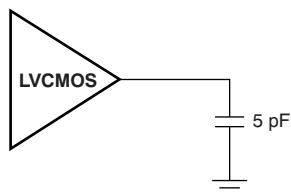
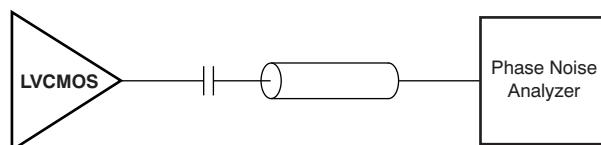
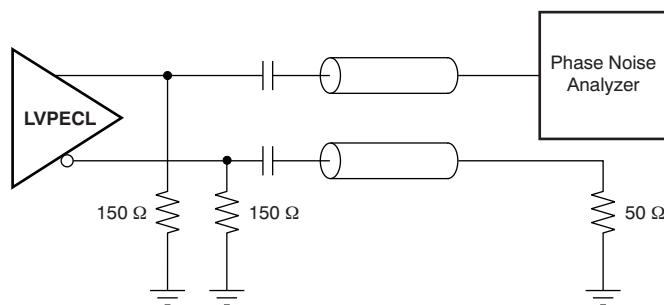
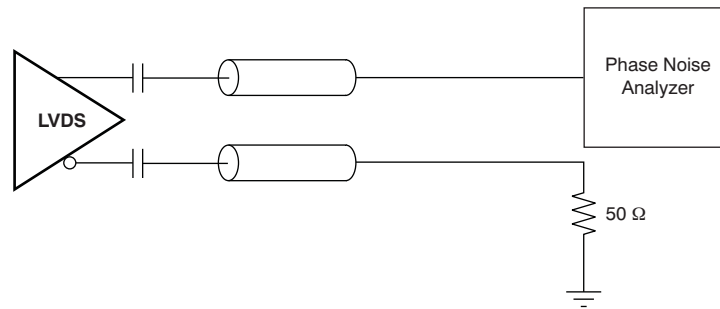

Figure 7. LVC MOS Output Loading During Device Test
Figure 8. LVC MOS AC Configuration During Device Test
Figure 10. LVPECL AC Configuration During Device Test
Figure 12. LVDS AC Configuration During Device Test
- (1) Figure 7 and Figure 8 show DC and AC test setups, respectively. Jitter measurements made using 25-MHz quartz crystal inches.
250-MHz LVCMOS OUTPUT⁽¹⁾ (See Figure 8)
625-MHz LVPECL OUTPUT⁽²⁾ (See Figure 10)
625-MHz LVDS OUTPUT⁽³⁾ (See Figure 12)
(1) Figure 8 shows test setup and uses 25-MHz quartz crystal in, $V_{CC} = 3.3$ V, and $T_A = 25^\circ\text{C}$.
(2) Figure 10 shows test setup and uses 25-MHz quartz crystal in, $V_{CC} = 3.3$ V, and $T_A = 25^\circ\text{C}$.
(3) Figure 12 shows test setup and uses 25-MHz quartz crystal in, $V_{CC} = 3.3$ V, and $T_A = 25^\circ\text{C}$.
(1) Figure 8, Figure 10, and Figure 12 show LVCMOS, LVPECL, and LVDS test setups (respectively) using appropriate quartz crystal in, V_{CC} = 3.3 V, and T_A = 25°C.
This section describes the function of each block for the CDCM61004. Figure 7 through Figure 13 illustrate how the device should be set up for a variety of output configurations.